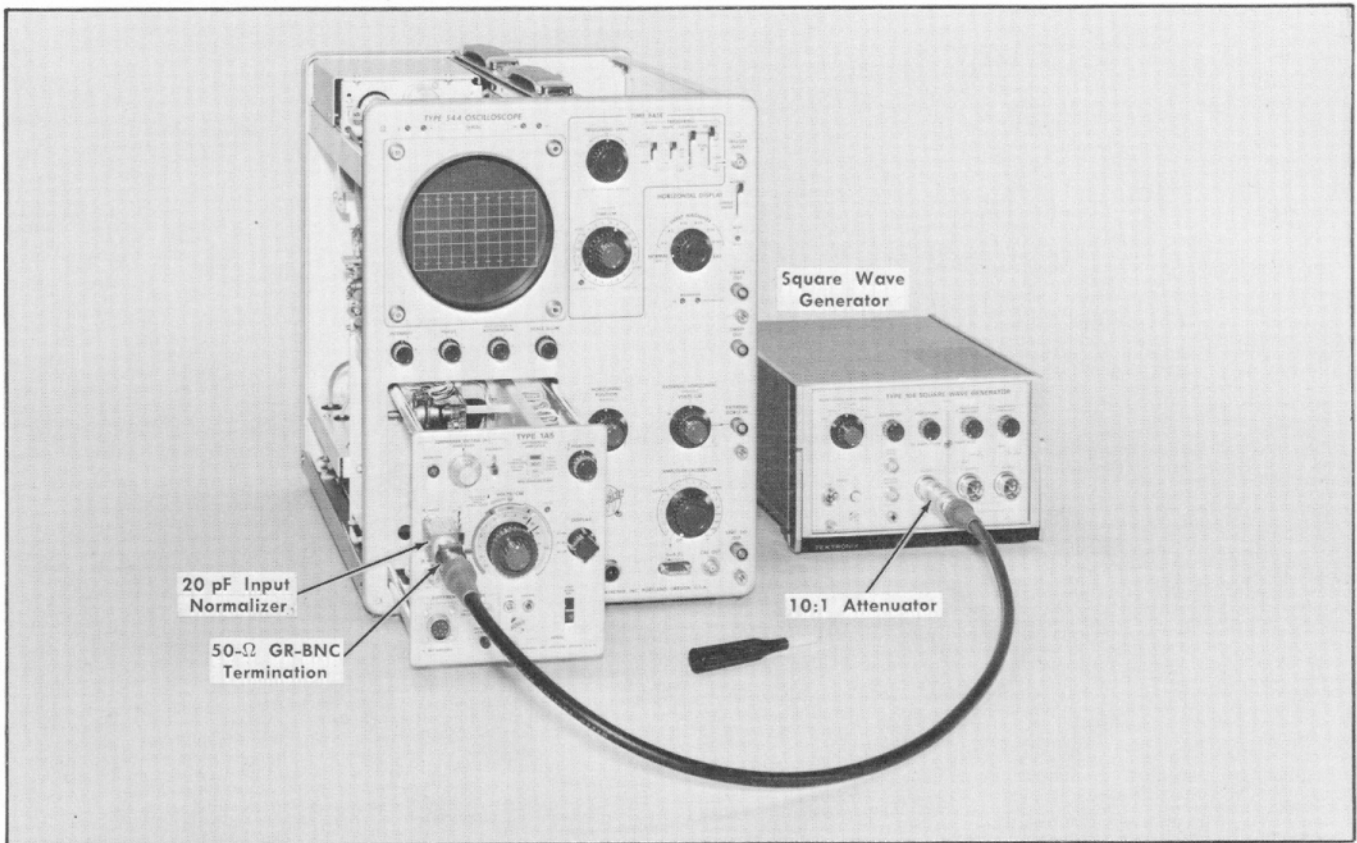
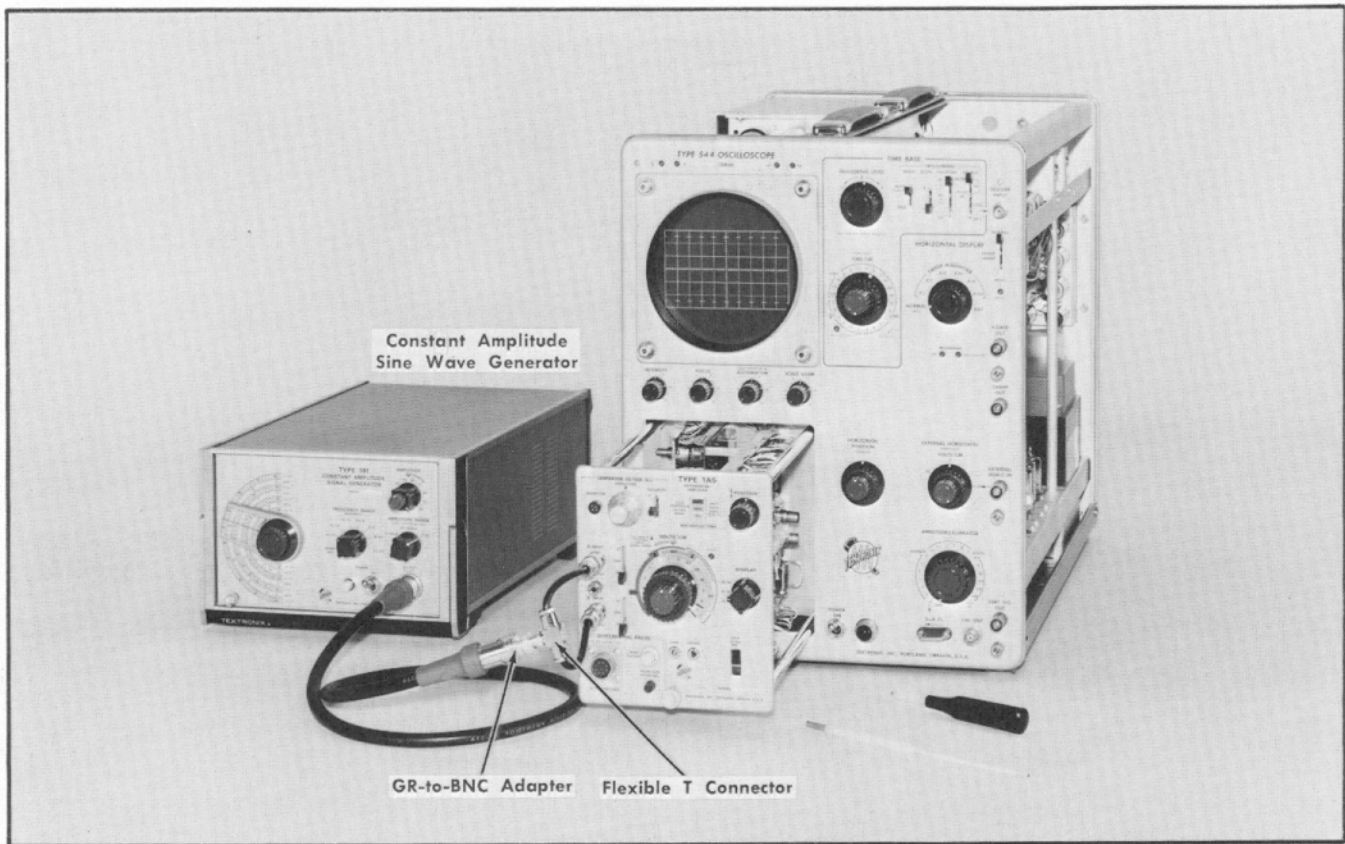
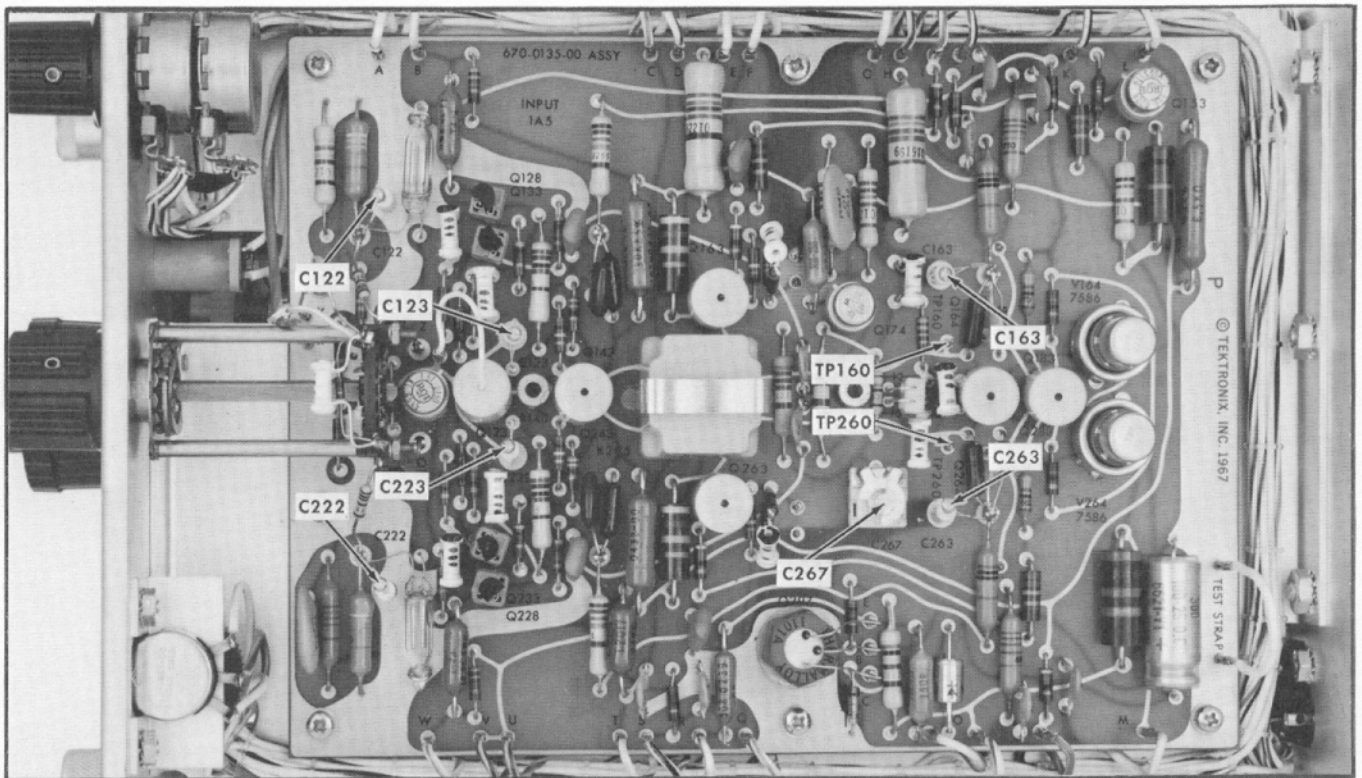

Fig. 6-15. Equipment setup for steps 14 and 16.
Fig. 6-17. Equipment setup for step 15.
Fig. 6-18. Adjustment locations for step 15.
a. Equipment setup is shown in Fig. 6-15. Location of adjustments is given in Fig. 6-16 (A). Typical waveforms are shown in Fig. 6-16 (B), (C), (D) and (E).
- 20 pF Input RC Normalizer (item 17)
a. Equipment setup is shown in Fig. 6-17. Locations of adjustments and test points are shown in Fig. 6-18.
b. Using the test strap, (removed from its Type 1A5 storage location during the Preliminary Procedure), connect TP 160 to TP 260. See Fig. 6-18 for test point locations.
c. Connect the two symmetrical ends of a flexible T connector to the A and B INPUTS of the Type 1A5. Connect the center of the T connector to a GR to BNC adapter (item 12). Connect the Type 191 Constant Amplitude Signal Generator (item 4) to the GR adapter, using its 5 ns GR cable.
e. Set the VOLTS/CM switch to 1 mV. Set the POSITION control to midrange and adjust R170 (DC BAL, Fig. 6-18) as necessary to position trace at the center of the graticule.
g. ADJUST—C267 (Fig. 6-18) for minimum display amplitude (optimum common-mode rejection).
- j. Check that the POSITION control and STEP ATTEN BAL control are at midrange and adjust R170 (Fig. 6-18) to set the trace to the center of the graticule.
- m. ADJUST—C122 or C222 and C123 or C223 (Fig. 6-18) for minimum display amplitude. (1 cm or less vertical display amplitude for 10,000:1 or greater common-mode rejection ratio.)
- p. ADJUST—Either C163 or C263 (Fig. 6-18) for minimum display amplitude. 1 cm or less vertical display amplitude for 1000:1 or greater common-mode rejection.
16. Adjust Attenuator Input Capacitance ❶
a. Equipment setup is shown in Fig. 6-15 except as follows: